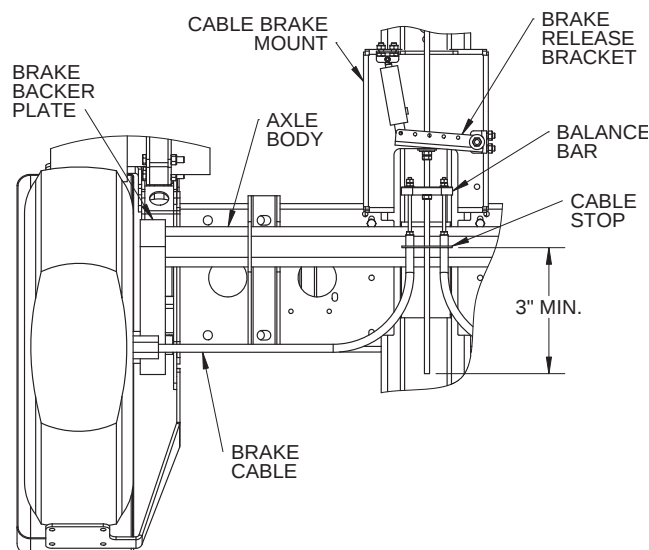

Figure 9-2. Drive & Set Brake Adjustment Procedure
- 1 All brake adjustments must be done with the aerial work platform's wheels off the ground, with the **ROD** and **BRAKE CABLES** completely slack (no tension). Refer to Figure 9-2 for steps 2 through 7.